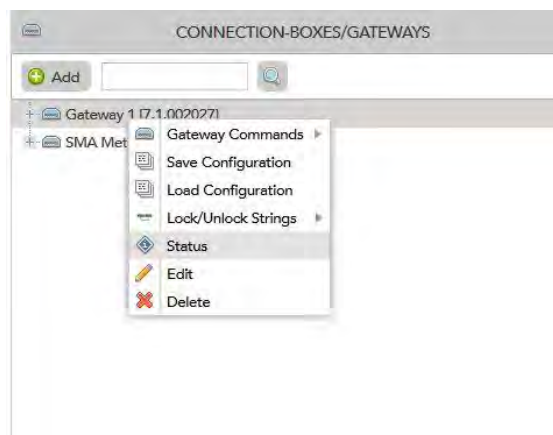

Figure 50: Opening the Status window of the Gateway.
3. Now you have to check if the Gateway sends data to the Webportal, and if all String Readers are correctly recognized. For that purpose right-click the Gateway and click „Status “ (Figure 50).